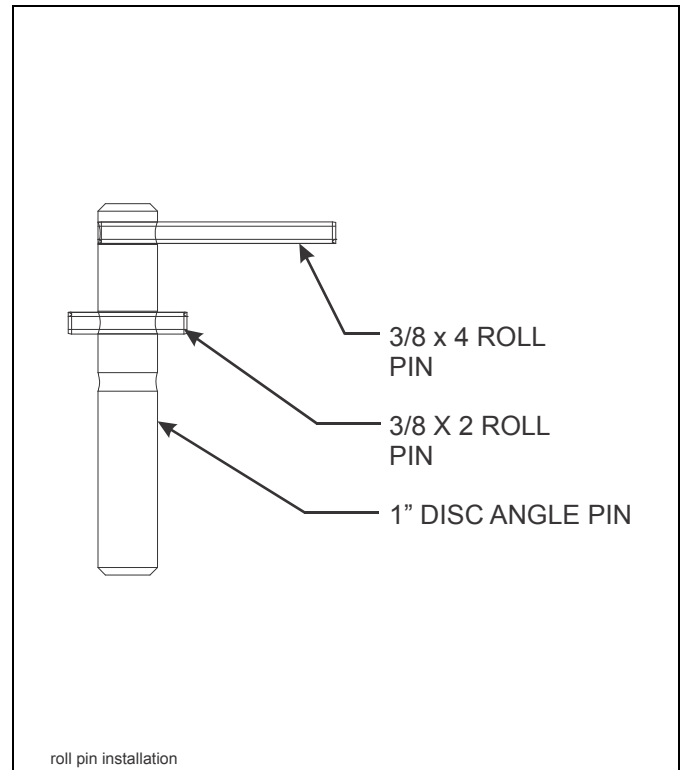

Figure 3-12: Roll Pin Installation
- Install roll pins into the pin, disc angle. The 4" roll pin will just go through the pin to act as a handle. The 2" roll pin will be centered in the pin (**See Figure 3-12.**)